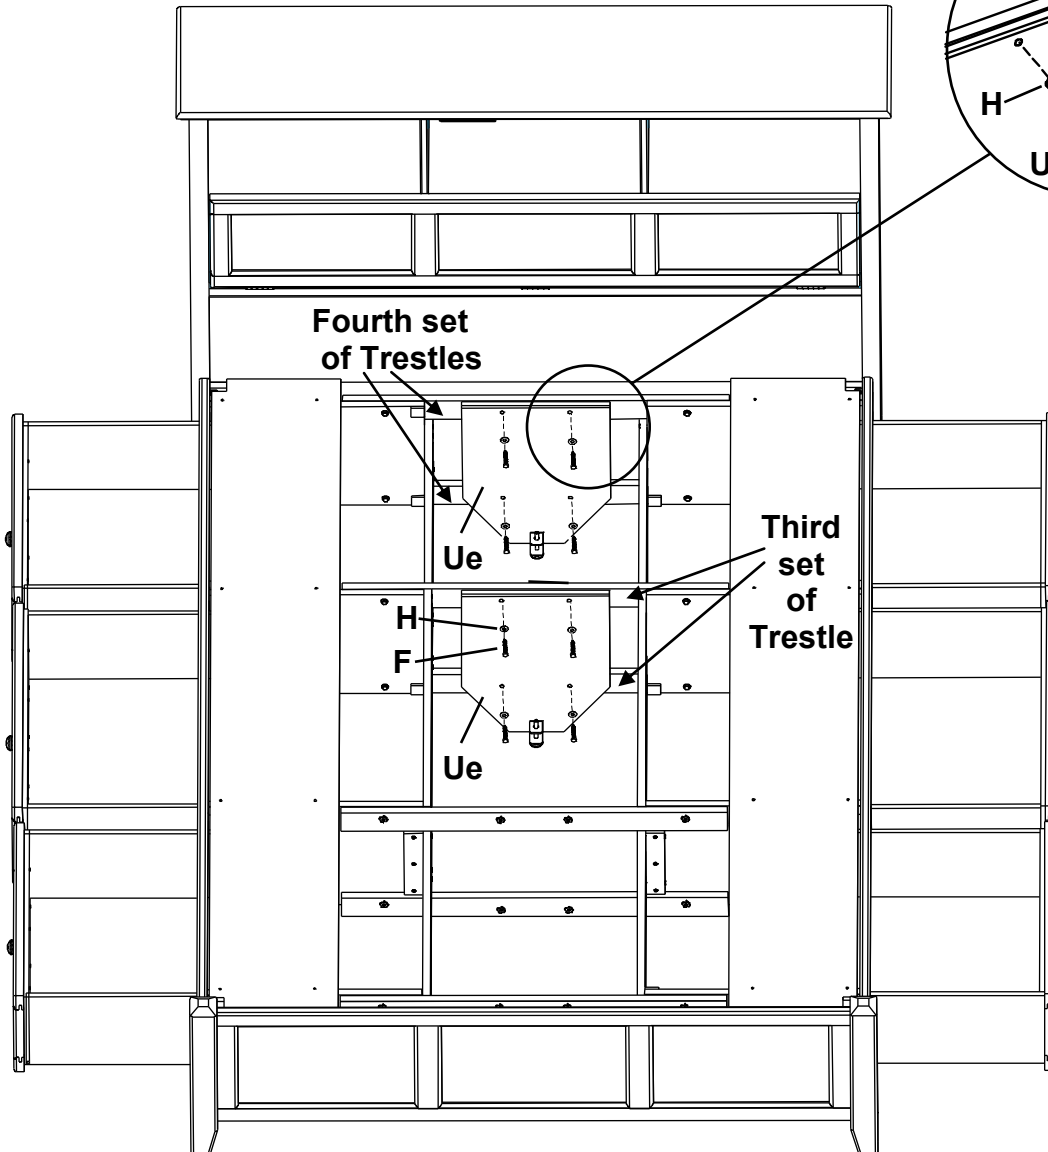

Fig. 8
8. Facing the Headboard, place two Foot Assemblies (Ue) on the inside faces of the third and fourth upper and lower Trestles. Attach with Washers (H) and 1/4" x 1-3/4" Hex Bolts (F). See Figures 8 and 8a.